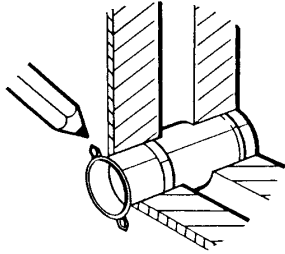

Fig. 66
7. Slide the assembled wall liner into the hole in the wall until the tags stop against the inner wall with the seam of the liner uppermost. Mark the positions of the holes in the tags on the wall and then rotate liner so that tags reveal marks (Fig. 66).